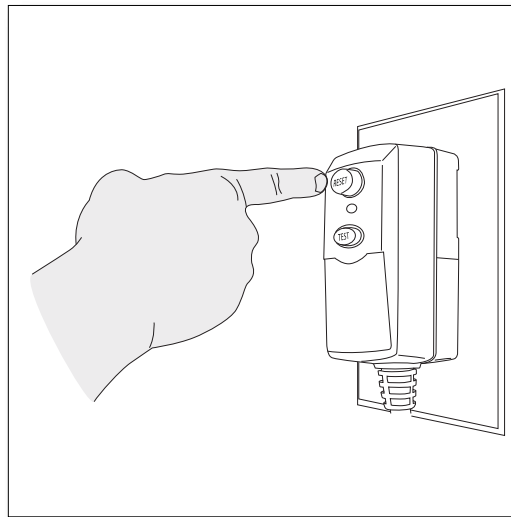

Fig. 19
- Unwind the power cord completely and plug the GFCI into a grounded 120 volt outlet. Press the ‘reset’ button on the GFCI box **(Fig. 19)**. The indicator window should show a red color. This must be done each time the unit is plugged in.